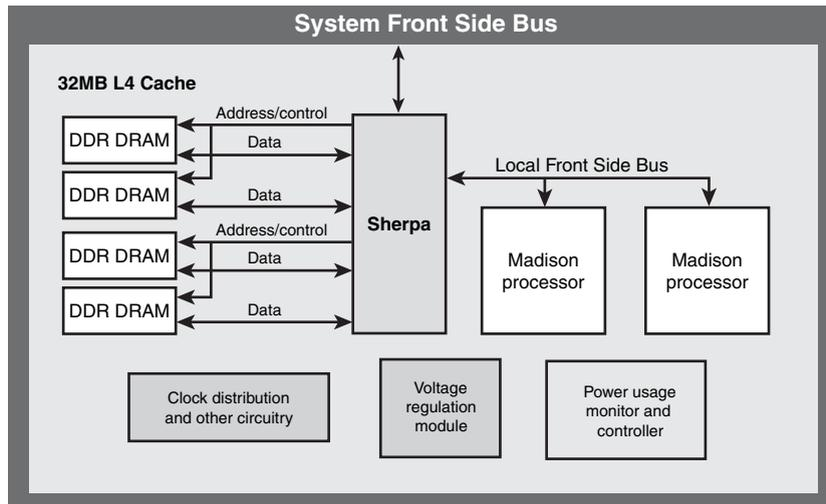

Figure 3.36 The block diagram of an mx2 processor cartridge.
- sx1000-based servers include 2, 4, 8, or 16 cells. (Each cell includes four or eight processors, depending on whether single- or dual-processor cartridges are used; see Figure 3.36.)
Figure 3.36 illustrates the block diagram of an mx2 processor cartridge.